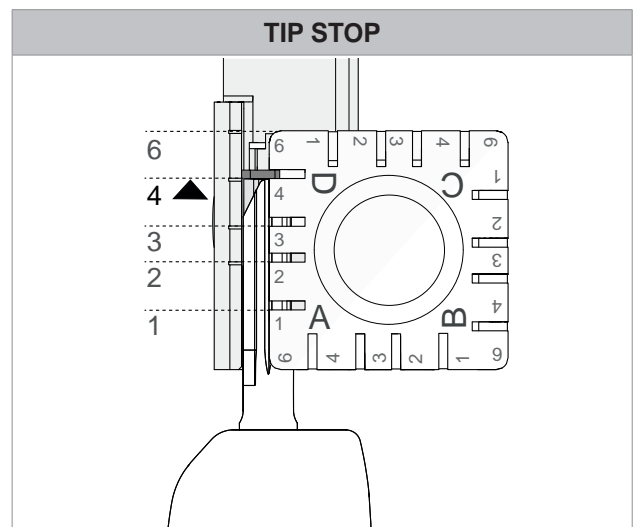

Fig. 49
- To fit keys with tip stops into the clamp, use the mobile stop on the gauge (Fig. 51) to be fitted into the special grooves (Fig. 49).